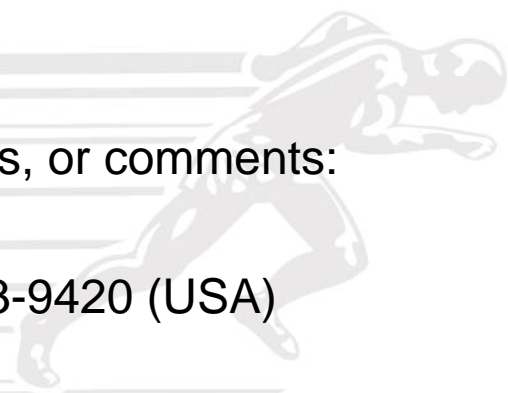

**Fig 3**
**On model SC2832E, to put the machine into service mode. Press and hold the lower part of the rocker on the service mode switch for about 15 seconds and release (See fig 3). The switch is located in the controller compartment under the seat, on the operators left side.**